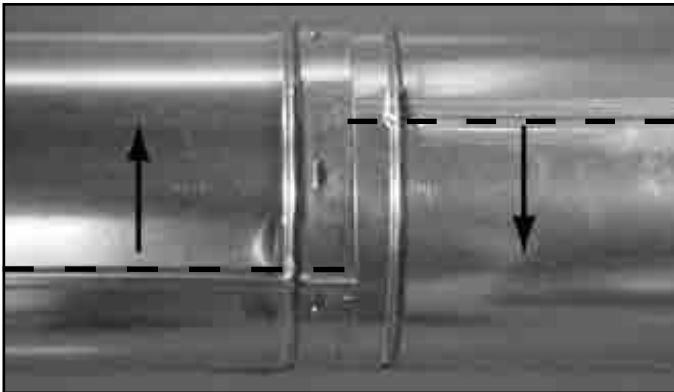
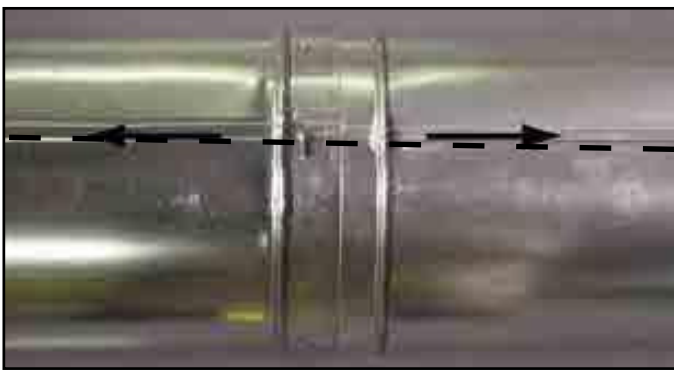

Figure 10.7 - Rotate Seams for Disassembly
Figure 10.8 - Align and Disassemble Vent Sections
- Rotate either section (see Figure 10.7) so the seams on both pipe sections are aligned as shown in Figure 10.8.